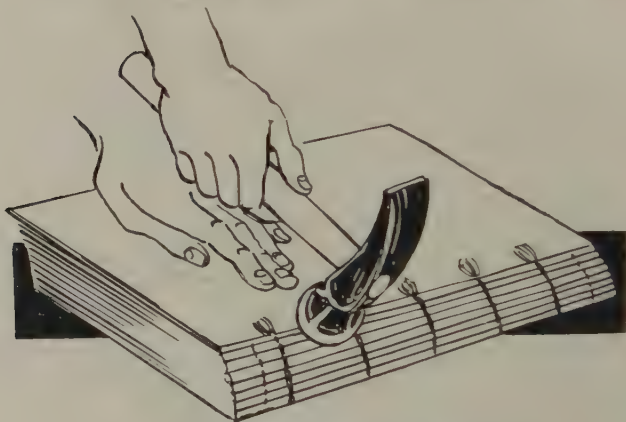

FIG. 201—SHAPING BOOK OR ROUNDING
5. When glue has "set" but not *dried* thoroughly, remove from clamp or backer, take off boards, lay book on iron slab on table, *front edge of book toward you*, and with your light backing hammer gently shape the book "into round." (Fig. 201.)